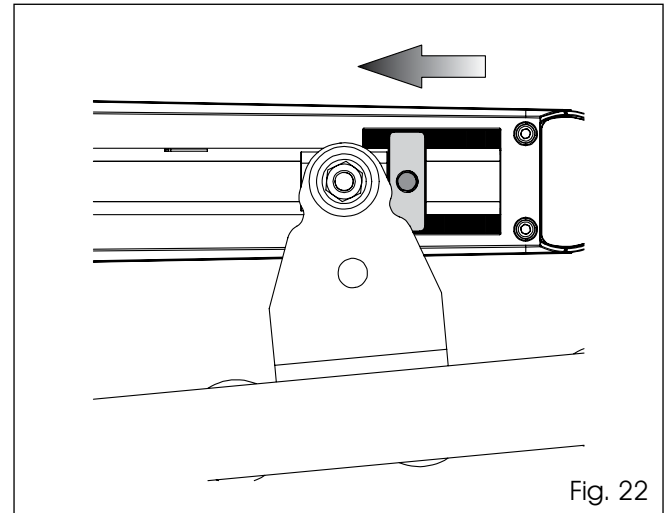

Fig. 22
4. Move the mechanical stop until it is close to the front side of the bracket, as indicated in Fig. 22.